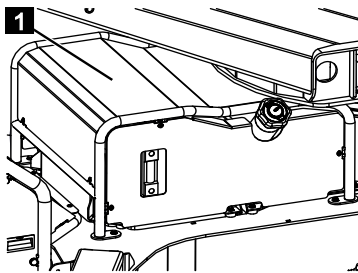

Fig. 237
4. Unscrew the cover (Fig.237/1).